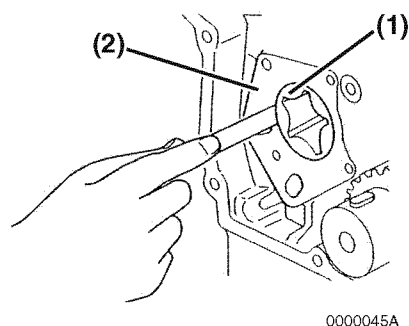

Figure 9-25
Determine the outside clearance of the outer rotor. Insert a feeler gauge between the outer rotor (Figure 9-25, (1)) and gear case oil pump cavity (Figure 9-25, (2)).